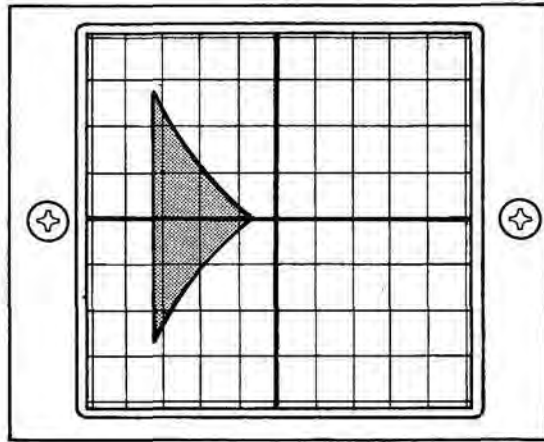

Figure 3-9 Typical Triangular Waveform
21. Rotate SWEEP Control (29) to "MOD FREQ Hz" and verify that a triangle is present on CRT Display (36). (See Figure 3-9.)